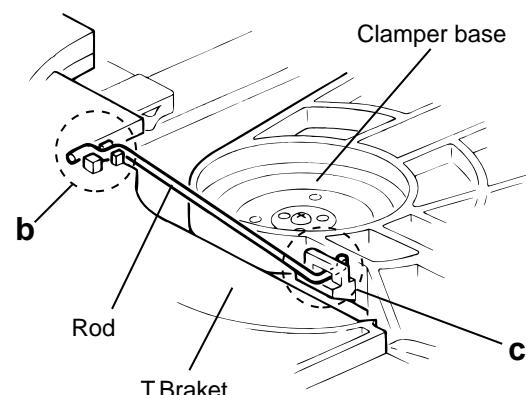

Fig.2
■ Removing the CD tray assembly (See Fig.2~4)
5. From the T.bracket section "b" and clamper base section "c", remove both of the edges fixing the rod(See Fig.2 and 3).